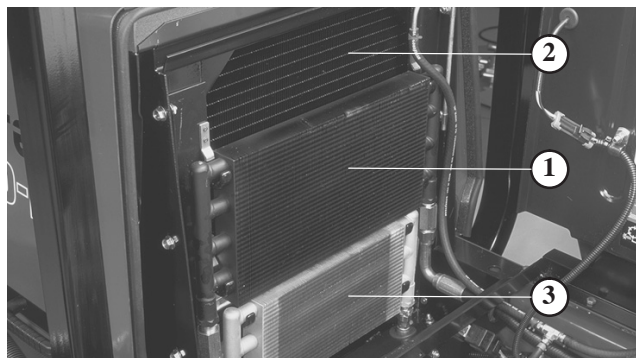

Figure 54
3. Slightly raise oil coolers and pivot forward (Fig. 54). Clean both sides of oil coolers and radiator area thoroughly with compressed air. Pivot oil coolers back into position.